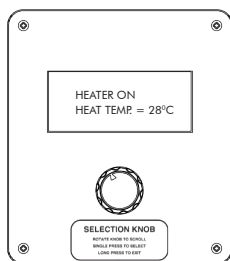

fig. no.23.3
• **HEATER ON** (fig. no.23.3)